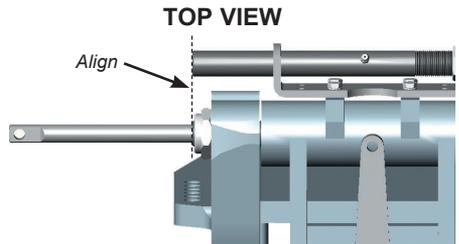

Fig B8 - Cable guide tube alignment
- iii) Adjust the position of the guide tube so that the exit end of the guide tube aligns with the exit end of the engine tilt tube (Fig B8)